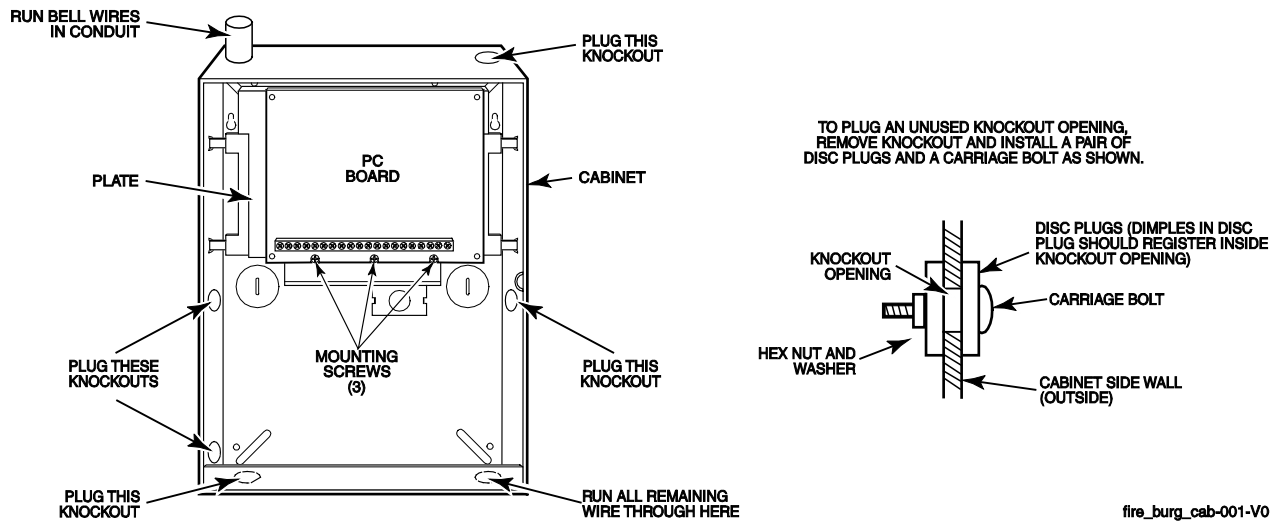

Figure 3-2: Cabinet Attack Resistance Considerations
UL To provide certificated burglary service for UL installations, refer to the special requirements and *Figure 3-2. Cabinet Attack Resistance Considerations* to follow.
- All unused knockouts must be plugged using the disc plugs and carriage bolts (supplied), as indicated in Figure 3-2.